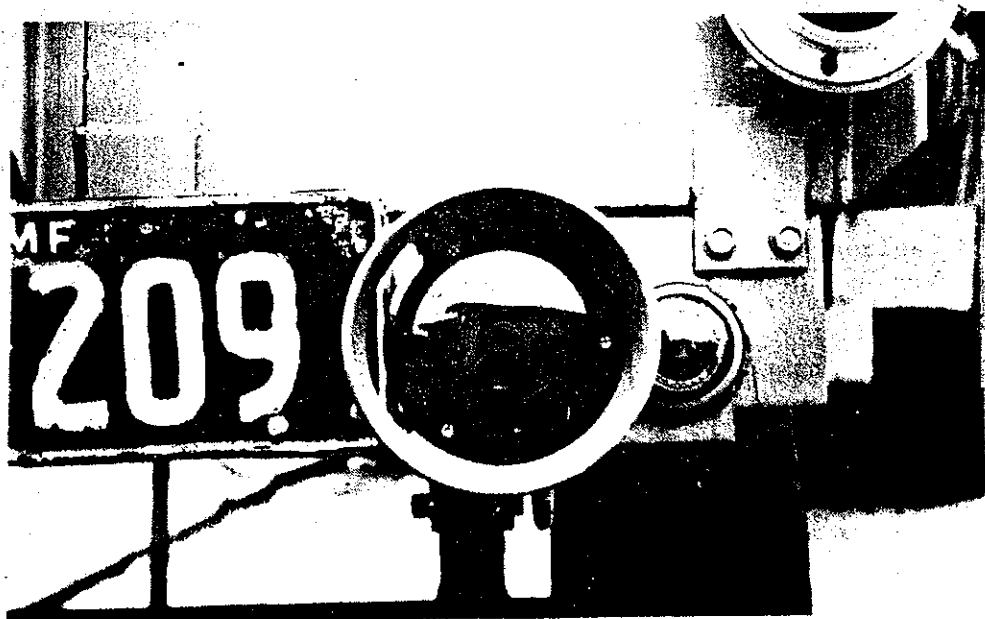

FIG 6 - REPLACEMENT STOP-TAIL LIGHT ASSEMBLY
- n. Fit the seal and lens as shown in Fig 6 and 7.